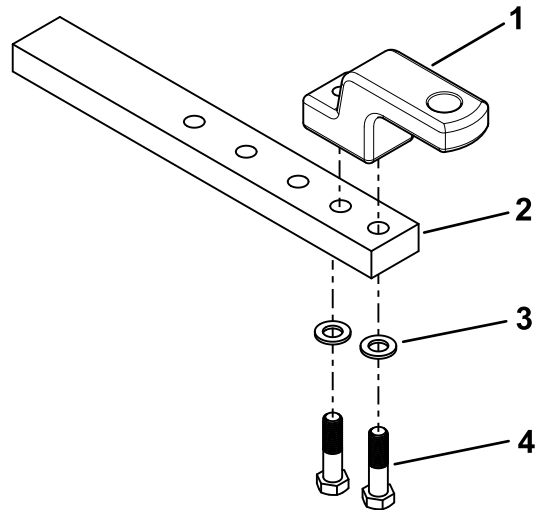

Figure 5
1. Use 2 screws (M18) and 2 washers to secure the hammer strap to the drawbar (Figure 5).